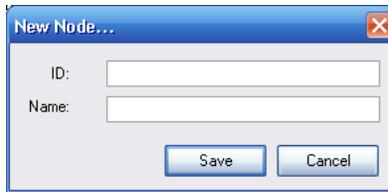

Figure 6-2 - New node dialog
4. You will be presented with the *New Node* dialog (see FIGURE 6-2)